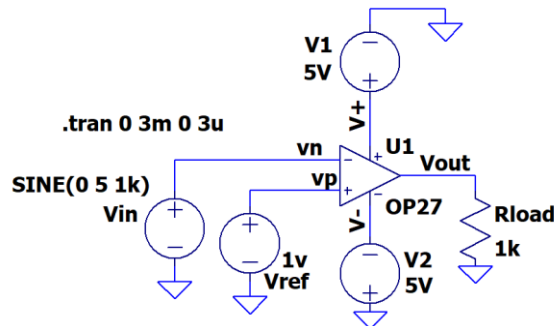

Figure B-2.
- Add a 1V reference voltage to the comparator as shown in Figure B-2 below.